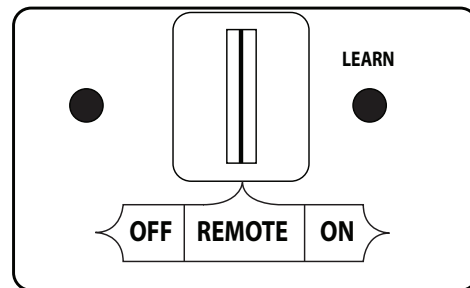
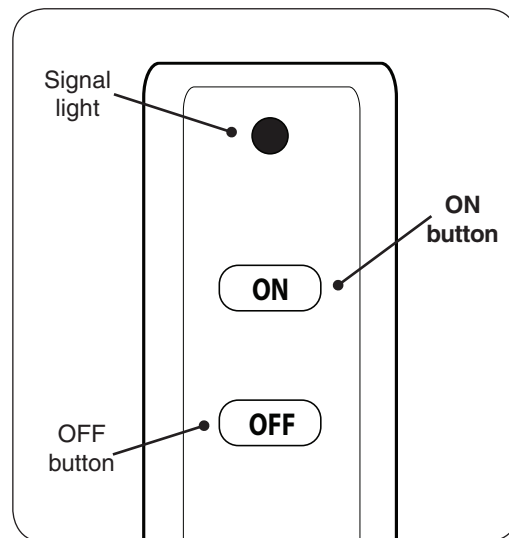

Fig. 27-1 Remote receiver detail (REMOTE)
Fig. 27-2 Remote transmitter detail
1. Locate the 3-position switch on the remote receiver (see Fig. 27-1), and slide the switch to the **REMOTE** position.
**Note: For Switch Box Models**, ensure that the ON/OFF switch at the front of the switch box is in the **OFF (O)** position.
2. Locate the remote transmitter and press the **ON** button (see Fig. 27-2). The ignition sequence will begin.